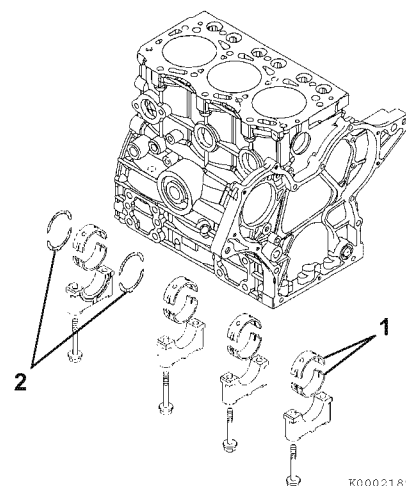

Figure 6-92
2. Install new bearing inserts (1, **Figure 6-92**) and thrust bearing (2, **Figure 6-92**) in the cylinder block and main bearing caps. Be sure the oil holes in the upper bearing shells align with the oil ports in the cylinder block. Apply a liberal coat of clean engine oil to the bearings and crankshaft journals.